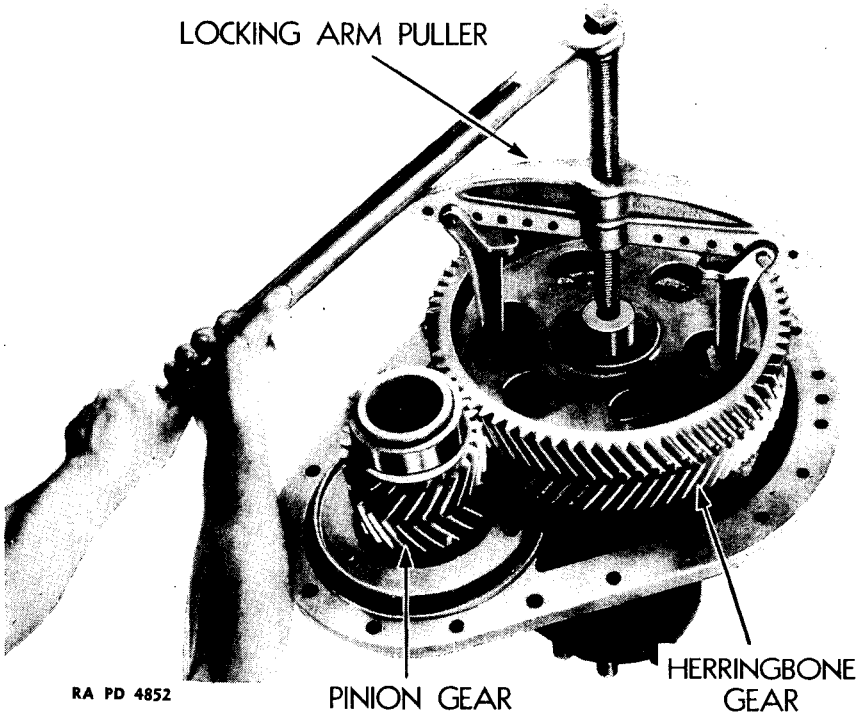
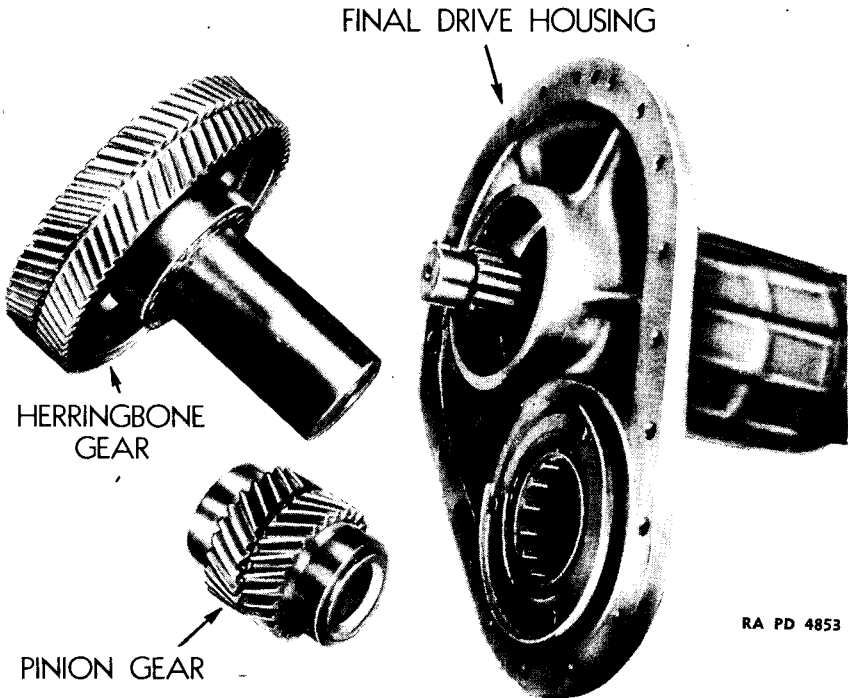

FIGURE 49 - REMOVING HERRINGBONE GEAR
FIGURE 50 - HERRINGBONE AND PINION GEARS
(2) Remove herringbone gear and pinion (*fig. 49*). Herringbone gear and pinion must be removed at the same time on account of interlocking teeth. Remove cotter pin from nut on herringbone gear and remove nut ($4\frac{1}{2}$ -in. wrench) and washer. Install puller on herringbone gear and pull slowly off shaft. The pinion must be kept in line with herringbone gear as it is raised, to prevent cocking of pinion gear in its bearing in cover. The pinion must slide out of its bearing as gear is pulled off shaft.
(3) Remove pinion gear bearing from cover. Remove locking wire and three bolts ($\frac{3}{4}$ -in. wrench) holding retainer to cover and remove the retainer. Lift bearing out of cover.
(4) Remove bearing races from pinion gear (*fig. 50*). Remove snap ring from each end of gear, with screwdriver, and slide races off gear.
(5) Remove spacer and bearing from herringbone gear (*fig. 50*). Knock spacer off hub of gear with wood mallet and lift bearing off hub.